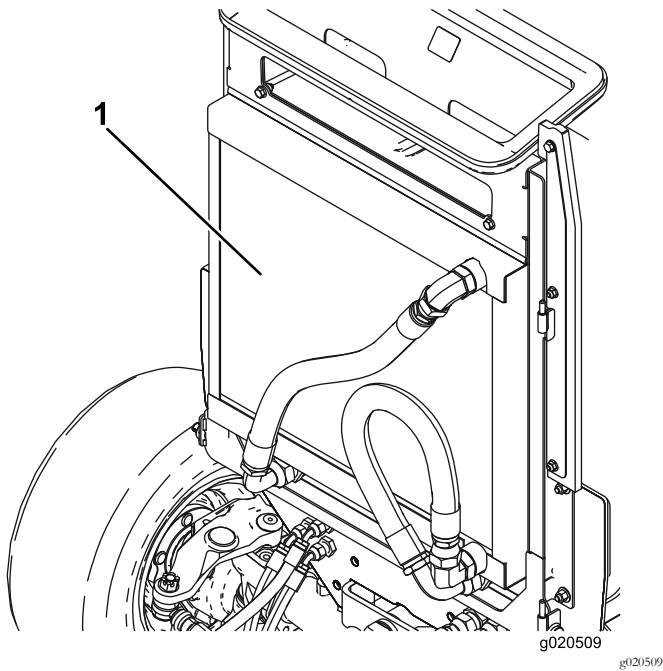

Figure 65
3. Thoroughly clean both sides of the oil cooler and the radiator with compressed air (Figure 65).